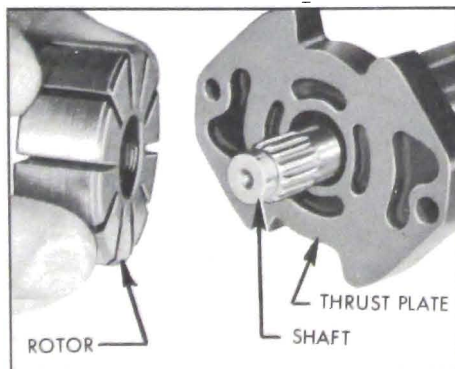

Figure 8-74—Assembling Shaft to Thrust Plate and Rotor
3. Assemble shaft to thrust plate (ported face of thrust plate toward splined end of shaft) and rotor. See Figure 8-74. Install retaining ring on end of shaft, being careful not to damage rotor. Rotor must be free on shaft splines.